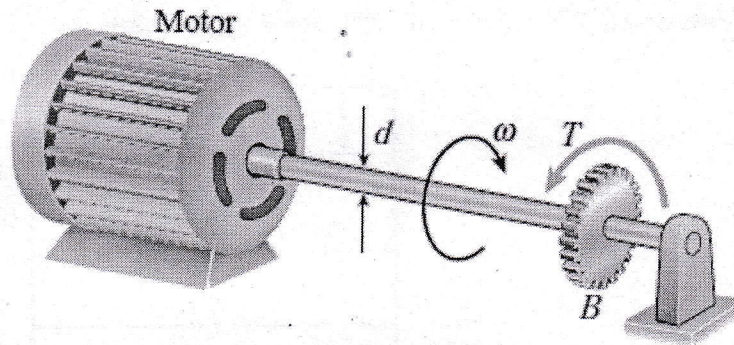

fig.11
- b) A motor driving a solid steel shaft transmits  $30\text{KW}$  power to a gear at  $B$ . The allowable shear stress in the steel is  $40\text{ MPa}$ . What could be the required diameter  $d$  of the shaft shown in fig 11, if it is operated at  $500\text{ rpm}$ ? [4]